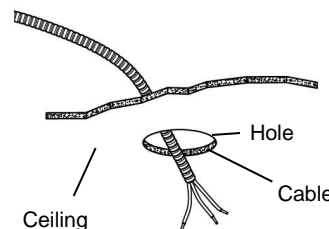

Fig. 3
3. Run armored cable (BX) or non-metallic (NM) cable (also known as Romex) from your circuit breaker or fuse panel to the 3 1/4" (8,3 cm) hole, providing 6" (15,2 cm) to 8" (20,3 cm) of slack extending below the hole. Cable having up to 12 AWG wiring may be used. (Fig. 3) **(WARNING - Use cables having wires rated 90°C or more.)**